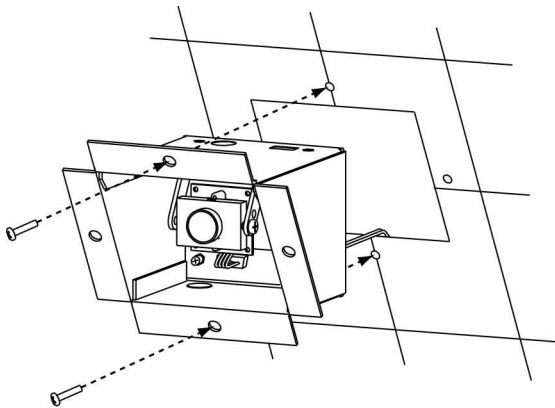

Figure 7. Angled flush-mount housing installation
- 6) Mount the camera assembly to the vehicle surface using two fasteners screwed into panel nuts. See Figure 7 or 8 (depending on the type of camera assembly being installed).